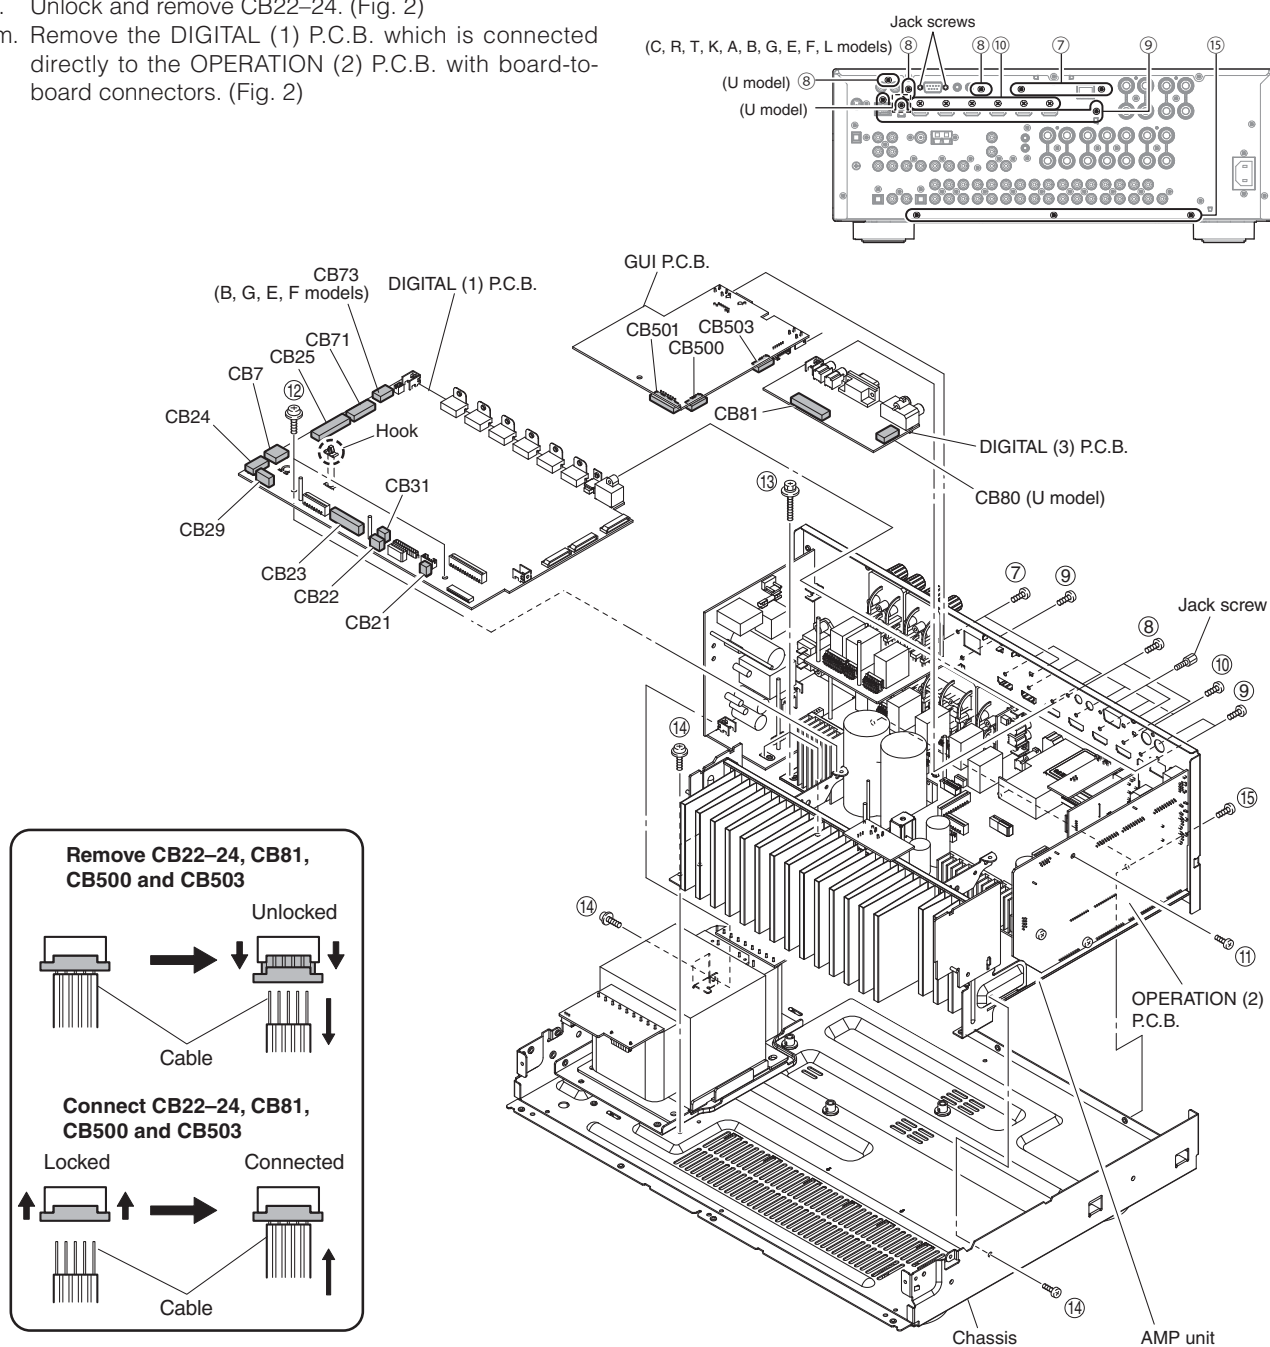

Fig. 2
3. Removal of GUI, DIGITAL (1) and (3) P.C.B.s
- Remove 2 screws (7). (Fig. 2)
- Remove CB501. (Fig. 2)
- Unlock and remove CB500 and CB503. (Fig. 2)
- Release hook, and remove the GUI P.C.B.. (Fig. 2)
- Remove 2 screws (8) and 2 jack screws. (Fig. 2)
- Remove CB80 (U model). (Fig. 2)
- Unlock and remove CB81. (Fig. 2)
- Remove the DIGITAL (3) P.C.B.. (Fig. 2)
- Remove 3 screws (U model) / 2 screws (C, R, T, K, A, B, G, E, F, L models) (9) and 6 screws (10). (Fig. 2)
- Remove screw (11) and 2 screws (12). (Fig. 2)
- Remove CB7, CB21, CB25, CB29, CB31, CB71 and CB73 (B, G, E, F models). (Fig. 2)
- Unlock and remove CB22–24. (Fig. 2)
- Remove the DIGITAL (1) P.C.B. which is connected directly to the OPERATION (2) P.C.B. with board-to-board connectors. (Fig. 2)
- Remove 3 screws (13) and 4 screws (14). (Fig. 2)
- Remove 3 screws (15). (Fig. 2)
- Remove the amp unit. (Fig. 2)